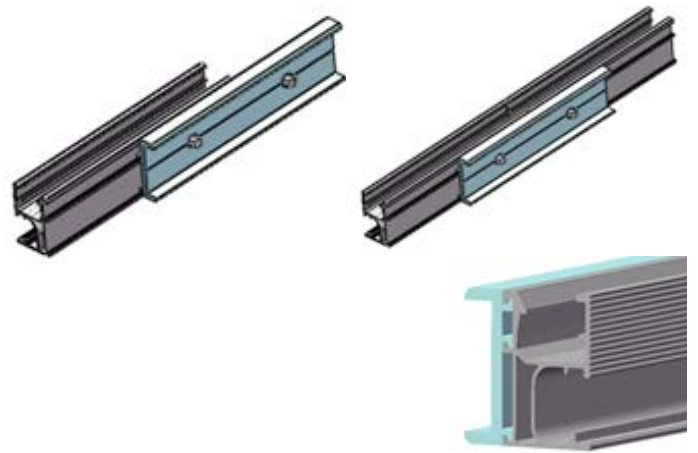

Figure 3
3) To connect several rails together, slide half of the splice into the rear side of the rail. Fasten the first M8 Bolt using an Allen key, and slide the next rail into the splice as shown in Figure 3. Tighten the second M8 Bolt using an Allen key. The total rail length is recommended not to be over 30 meters considering rails thermal expansion problem.